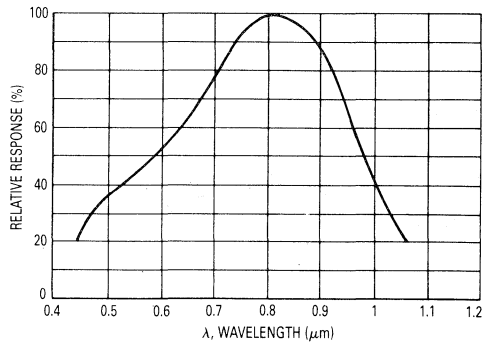

Figure 6. Constant Energy Spectral Response
2. For unsaturated response time measurements, radiation is provided by pulsed GaAs (gallium-arsenide) light-emitting diode ($\lambda = 940 \text{ nm}$) with a pulse width equal to or greater than 500 microseconds (see Figure 6) $I_L = 1 \text{ mA peak}$.